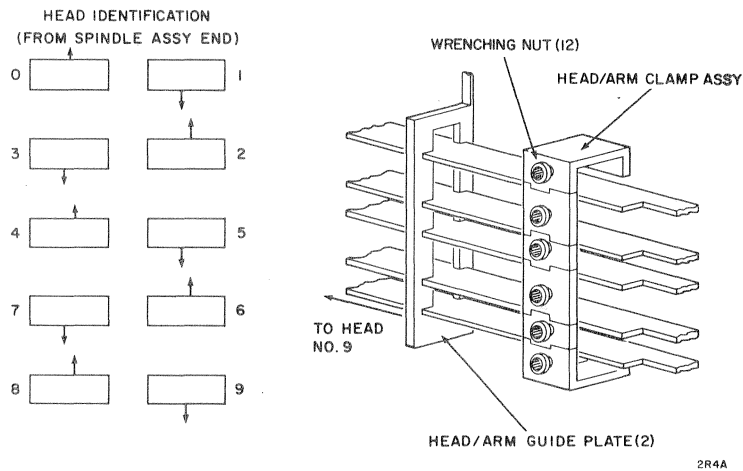

Figure 6-7. Head/Arm Assembly Adjustment
3. Determine the faulty head. Refer to Figure 6-7 for the physical location of the head.
5. Loosen the wrenching nuts immediately above and below the faulty head/arm (Figure 6-7).
5. Loosen the 12 wrenching nuts (Figure 6-7) through the head/arm clamp.
6. Note the orientation of the head arms and mark the arms. Refer to Figure 6-7 for head identification.
11. Referring to Figure 6-7 and step 6, carefully thread the connector plug for a head/arm assembly through the head/arm guide plate and clamp. Slide the head/arm into the slots in the guide plate and back to the head/arm locating block. Thread the head/arm cables through the cable retainer connected to the head latch assembly. Repeat this procedure for each of the nine remaining head/arm assemblies. Using a torque Allendriver (84255000), tighten the 12 wrenching nuts in the head/arm clamp to  $6 \pm 0.5$  inch-pounds.